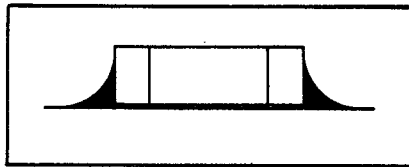

Figure 4-19. Chip Soldering
- o On a chip component the solder should wick three quarters across the face and two thirds up the side of the contact surface. See Figure 4-19.